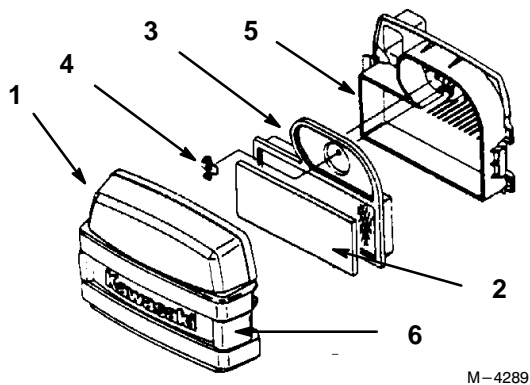

Figure 29
2. Clean around the air cleaner to prevent dirt from getting into the engine and causing damage. Unlatch two side latches and remove the air cleaner cover (Fig. 29).
3. Carefully remove the foam element from the paper element (Fig. 29).
4. Unscrew the wing nut and remove the paper element (Fig. 29).
1. Carefully slide the foam element into the paper air cleaner element (Fig. 29).
2. Place the air cleaner assembly onto the air cleaner base and install wing nut (Fig. 29).
3. Install the air cleaner cover and latch (Fig. 29).